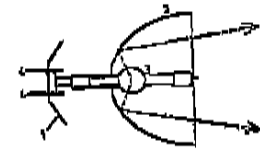

Fig. 5b
a) Slightly screw the 4 bolts clockwise; the lamp will get close to the reflecting mirror and the beam angle will increase (fig. 5b).